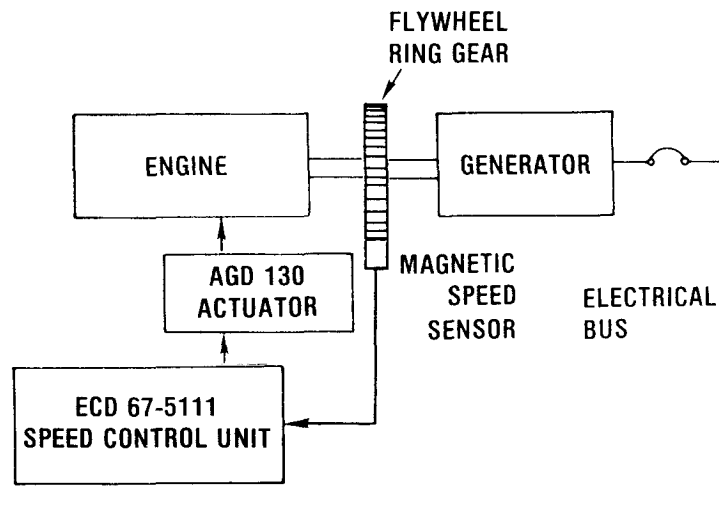

Figure 1. Block diagram of a basic engine governing system
The basic system consists of three (3) components: a speed control unit, actuator, and a magnetic speed sensor. (See Figure 1.)